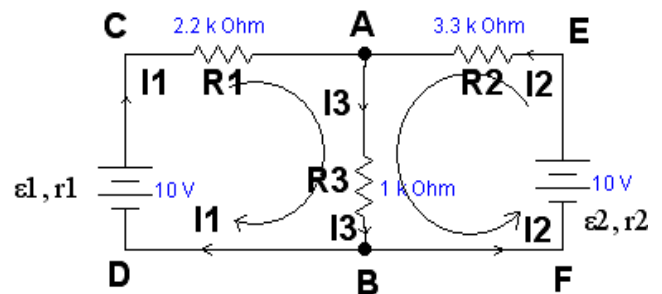

Figure 4
4. Calculate the current strength at I_1 , I_2 , I_3 and the potential difference at points A and B (V_{AB}). Make a series like figure 4 and take measurements. Compare the calculation results with the measurements taken!